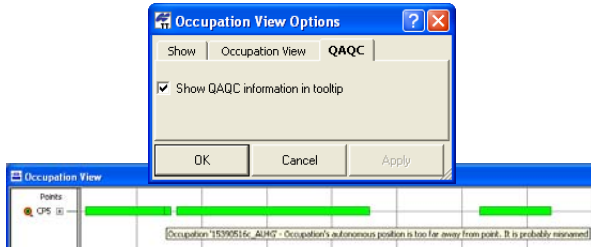

Figure 4-53. Occupation View QAQC
4. On the *QAQC* (Quality Analysis Quality Control) tab, if desired, enable the following setting (Figure 4-53). Click **Apply** to save the setting.